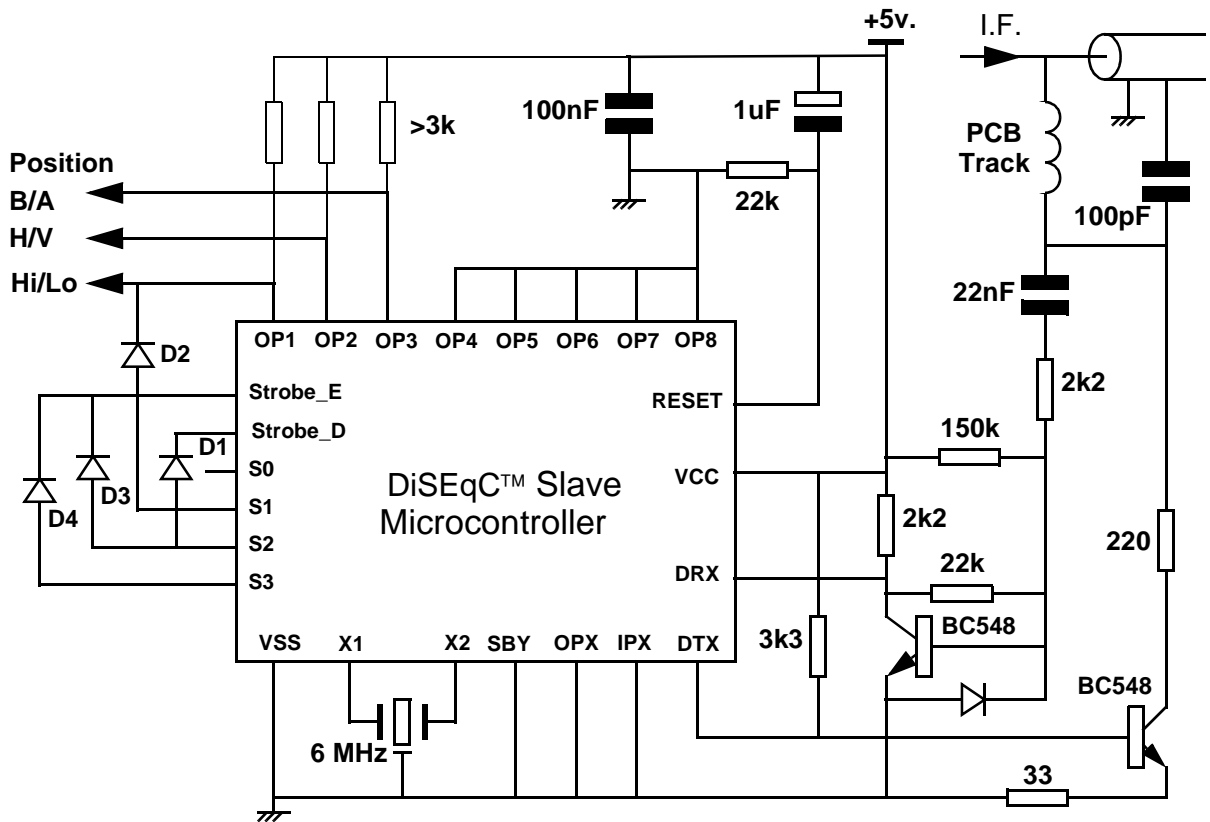

Figure 4
*Figure 4* includes the few additional components needed for the slave accessory to transmit a reply to the master Receiver/IRD. The reply can be a simple acknowledgement that a command has been received, or the return of various types of data such as the frequency of the Local Oscillator, for automatic installation.
The data selection inputs (S0 - S3) are primarily intended to communicate the frequency of the Local Oscillator to the internal software. In the general case, this is done by connecting one or more diodes between the S0 - S3 inputs to the appropriate 'Strobe' pins, as defined in the relevant slave data sheet. The Strobe\_D pin is used to signal the High (or only) L.O. frequency and the Hi/Lo pin is used as a strobe for the Low L.O. only when two frequencies are available. As an example, diode D1 shown in *Figure 4* signals a Low L.O. frequency table value of 2 (9.750 GHz) and D2 signals a High L.O. frequency table value of 4 (10.6 GHz). In practice, there is a more economical method of signalling this particular combination, as explained in *section 8*.